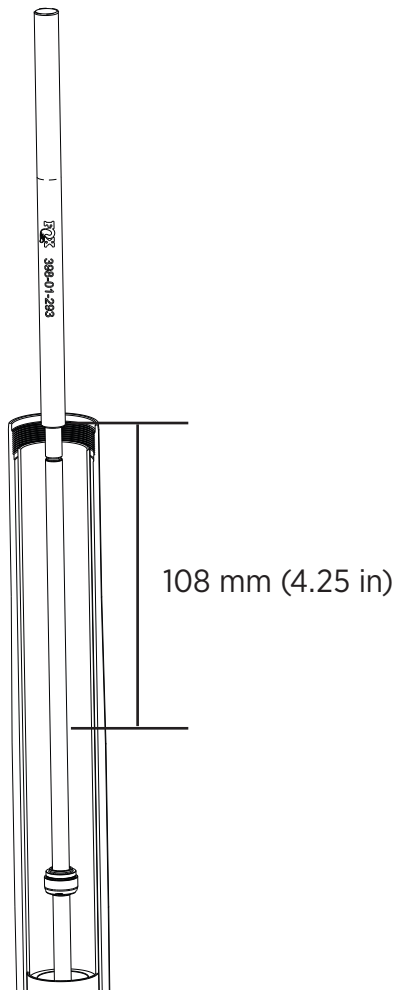

Fig. 12: Set the air gap to the specified height.
9. Set the air gap to 108 mm (4.25 in); measurement setup shown in Fig 12.